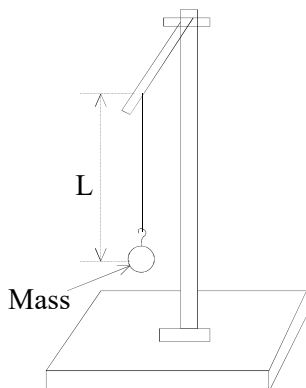

Figure 2: The Experimental Setup
1. First, the apparatus should look similar to Figure 2.
3. Measure the time for 10 complete oscillations with a stop watch and record the time period (T) of the oscillation. After the first period is recorded, repeat for two more times. Fill in Table 1 accordingly, where T_{avg} is the average period of the three trials.